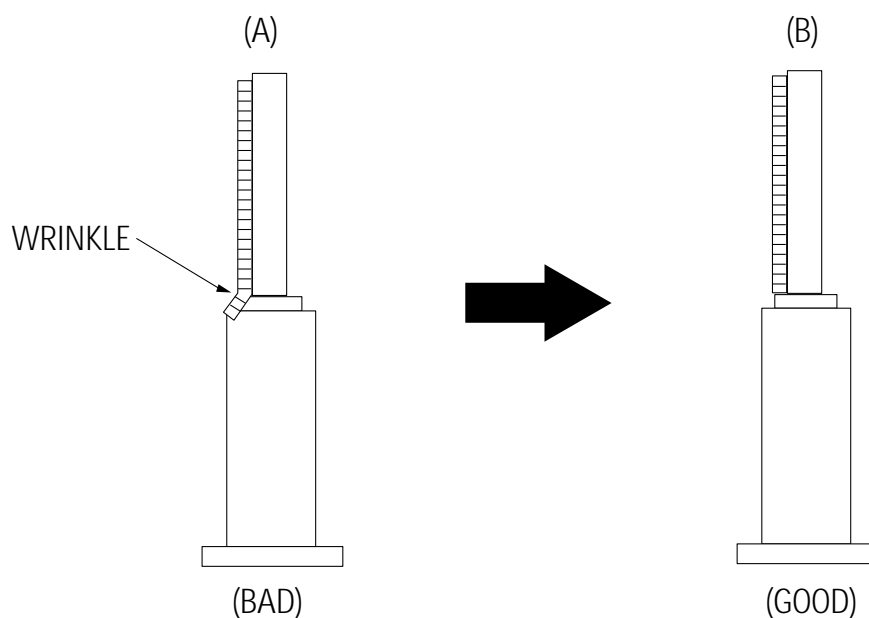

Fig. 6-9 Tape Guide Check
- 2) Confirm that there is no curl or wrinkle at the lower flange of tape guide as shown in Fig. 6-9 (B).
- 3) If a curl or wrinkle of the tape occurs, slightly turn the screw (A) tilt adjust on the ACE head ass'y.